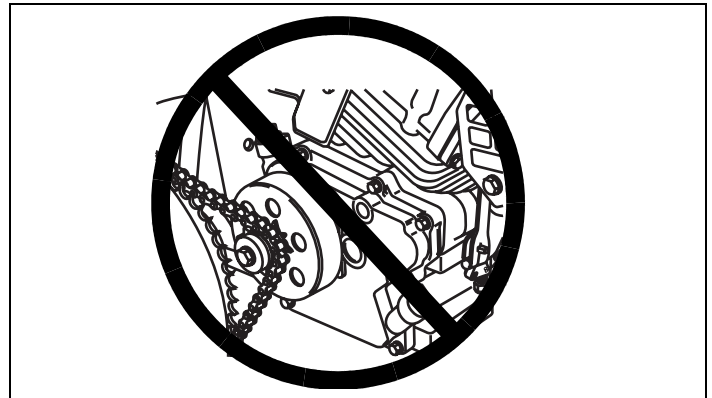
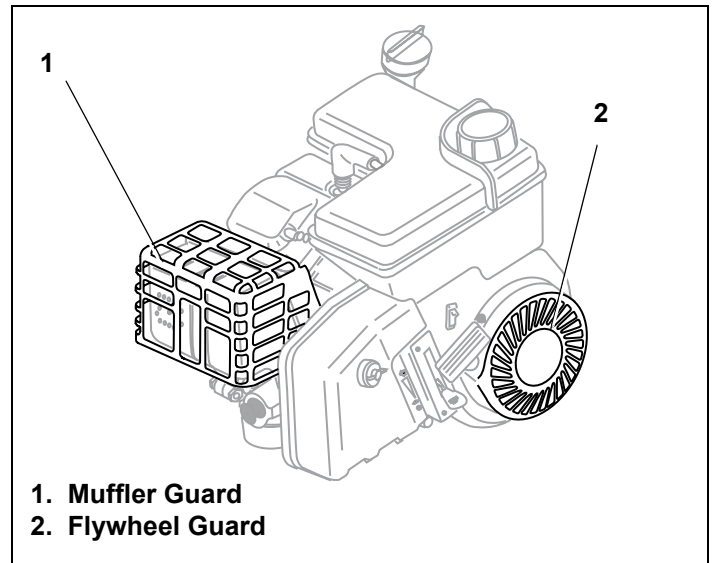

Figure 7. Incorrect Usage Without Engine Shaft Guard
Figure 8. Engine Guard Locations
2. Guards—Check that all of the guards are securely in place. NEVER operate the vehicle if you think there may be a guard missing. Check with equipment manufacturer for a complete list of guards. See Figure 7 and Figure 8. See "D. Stay Away from Rotating Parts" instructions on page 2.